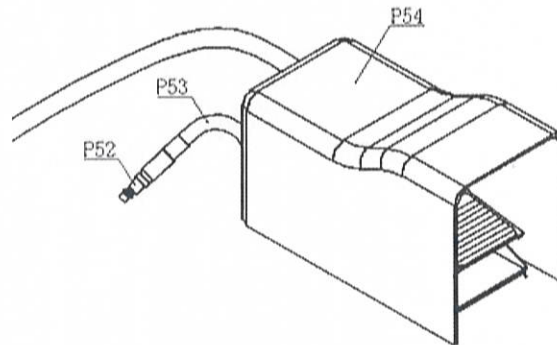

Fig. 9
15.3.1 Connecting the air hose (P52) of the air foot valve (P54) to the compressor. (refer to fig 9)
16.1.1.1 Connecting the air hose (P52) of air foot valve to the compressor. (fig 9)
16.2.1.1 Connecting the air hose (P52) of air foot valve to the compressor. (fig 9)
16.3 To stop the movement of the piston rod: stop pumping the handle tube (50) or release the air foot valve (P54), the piston rod will stop moving. Then turn the handle lever (99) of selector valve to position 2. (fig 9)